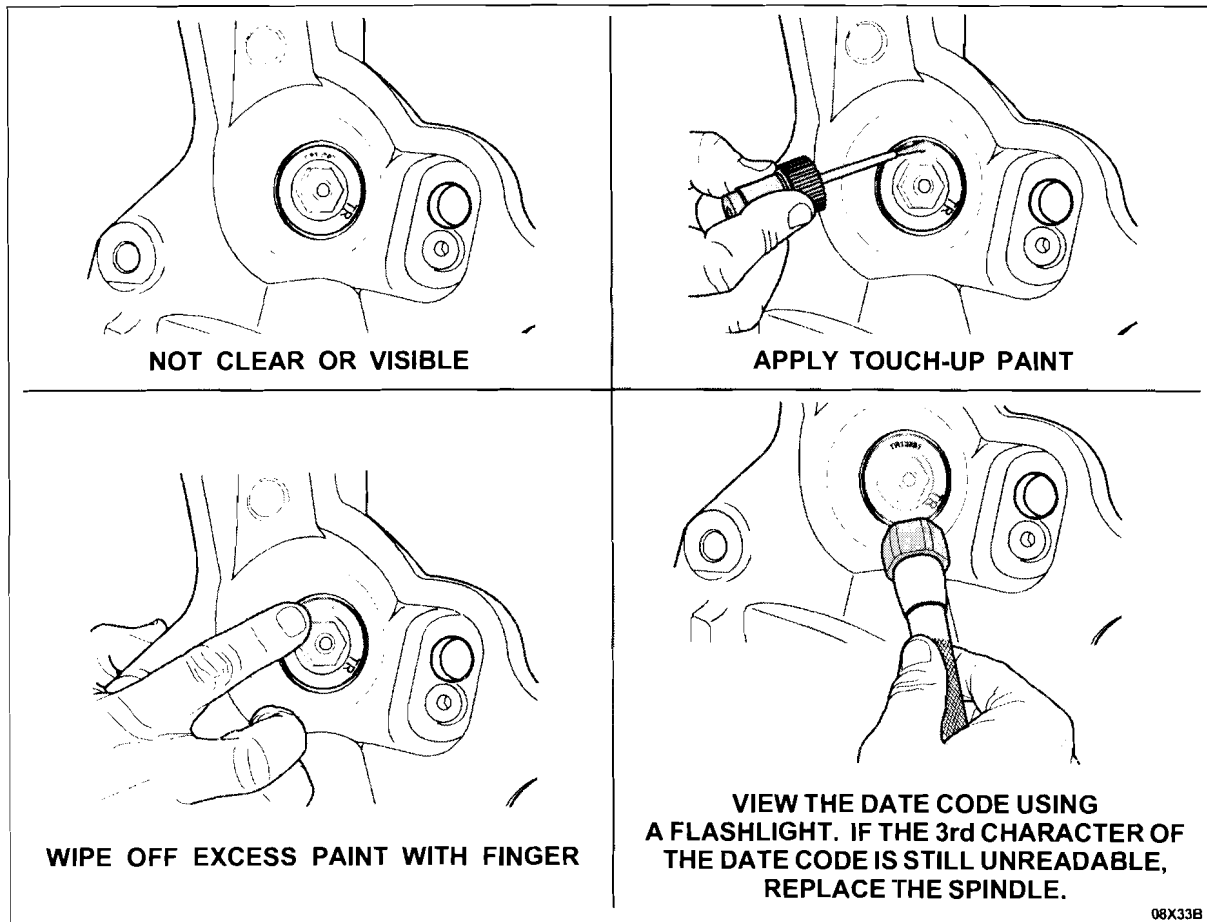

FIGURE 2
3. If the front wheel spindle date code is NOT clear or visible on a TR spindle, fill the character stamping with white or yellow touch-up paint to improve visibility. See Figure 2.